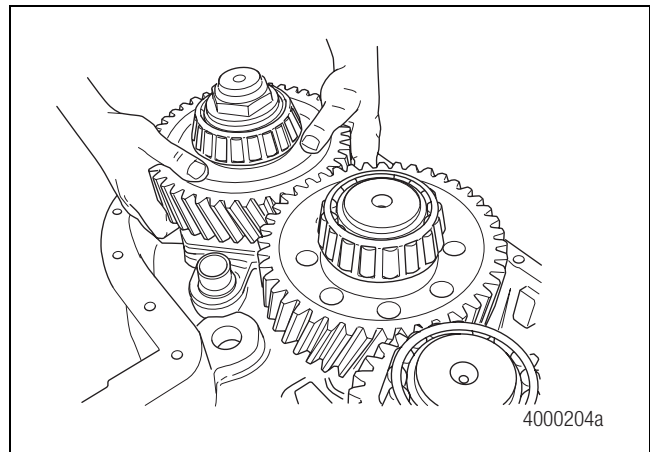

Figure 6.2
4. Install the front output shaft, shift fork and clutch collar over the front output shaft tapered roller bearing in the front case. Figure 6.2.